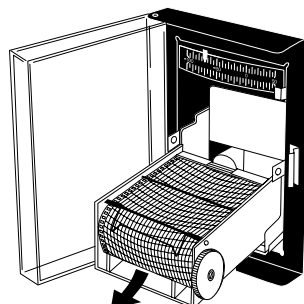

Fig. 2
2. Pull the cartridge out of the mounted position. (Fig. 2)